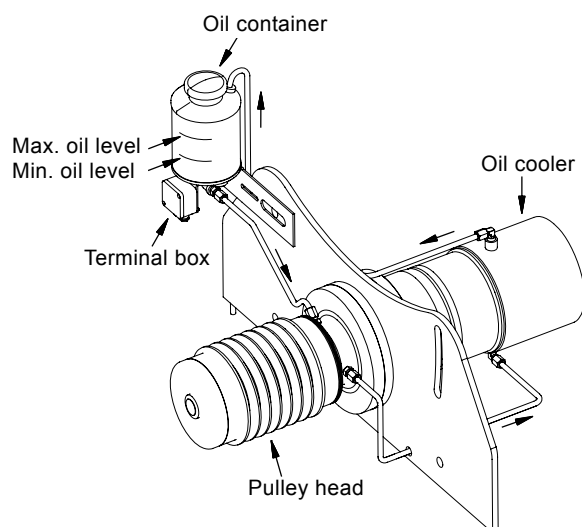

Fig. 19 Oil lubrication system
During operation, there must be a continuous flow of oil to the oil container. Check the flow by looking into the container, see fig. 19.
2. Open the drain valve. See fig. 19. Oil will now run out of the oil drain pipe.
1. Check that the drain valve is closed. See fig. 19.